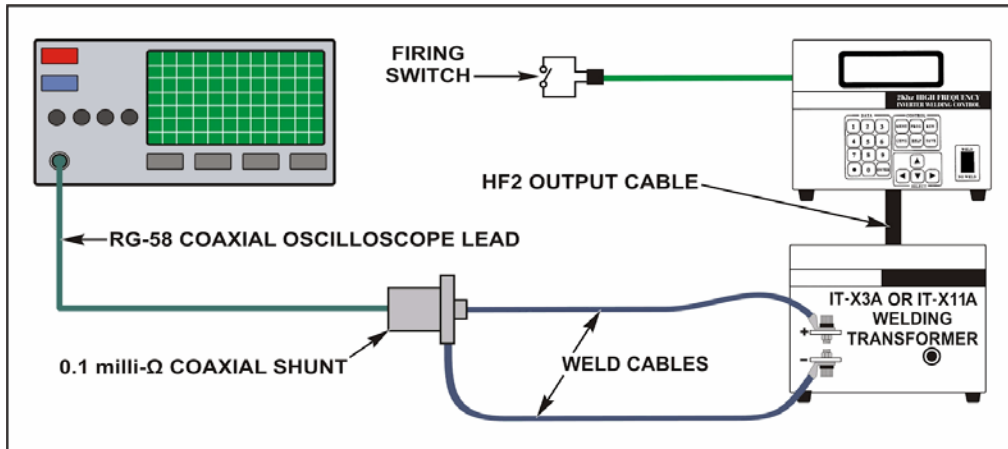

Figure 4
5. Disconnect the voltage sense cable and 1.0 milliohm load from the test setup and reconnect the test equipment as shown in Figure 4.
1. The HF2 and test equipment should still be connected as detailed in Figure 4. Locate the Main Board (Assembly 4-32889), which is on the right hand side of the HF2S. Disconnect connector J15 using a small flat blade screwdriver to disengage the clip.